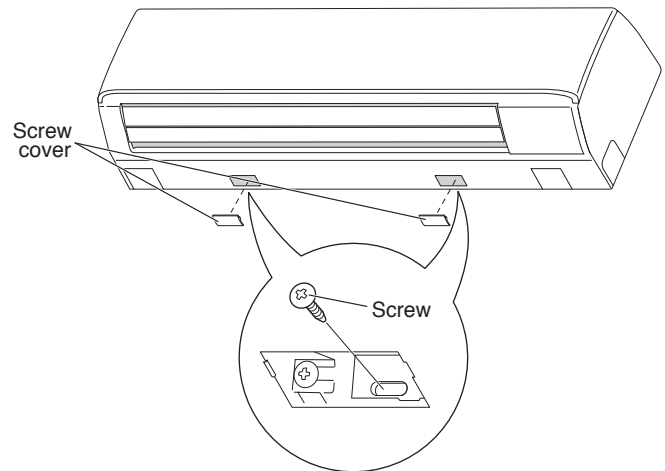

Fig. 43
- (1) Remove the screw cover on the bottom surface. (Fig. 43)
- (2) Fasten the frame to the rear panel using the 2 supplied tapping screws $5/32" \times 13/32"$ ($4 \times 10 \text{ mm}$). (Fig. 43)